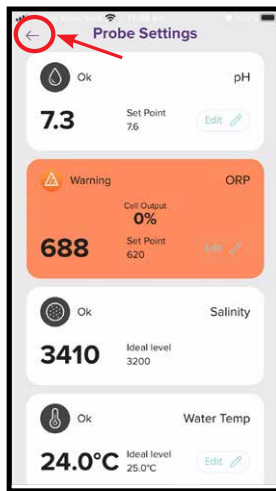

Figure 8.41
- Press the back arrow to return to the home screen of the Henden Smart Chlorinator App (refer figure 8.41).